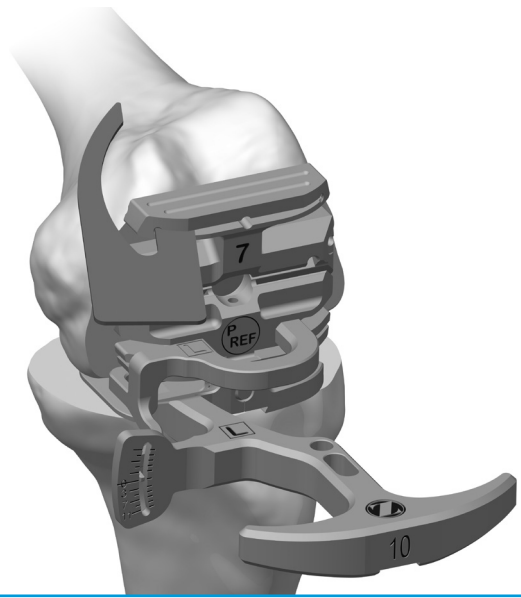

Fig. 26
- Check for notching by placing a resection guide in the anterior cut slot or by using a 3.2mm Drill in the drill hole in the anterior cut slot of the *Persona* Posterior Referencing 4-in-1 Cut Guide before making cuts. Change size as appropriate to avoid notching (**Fig. 26**).